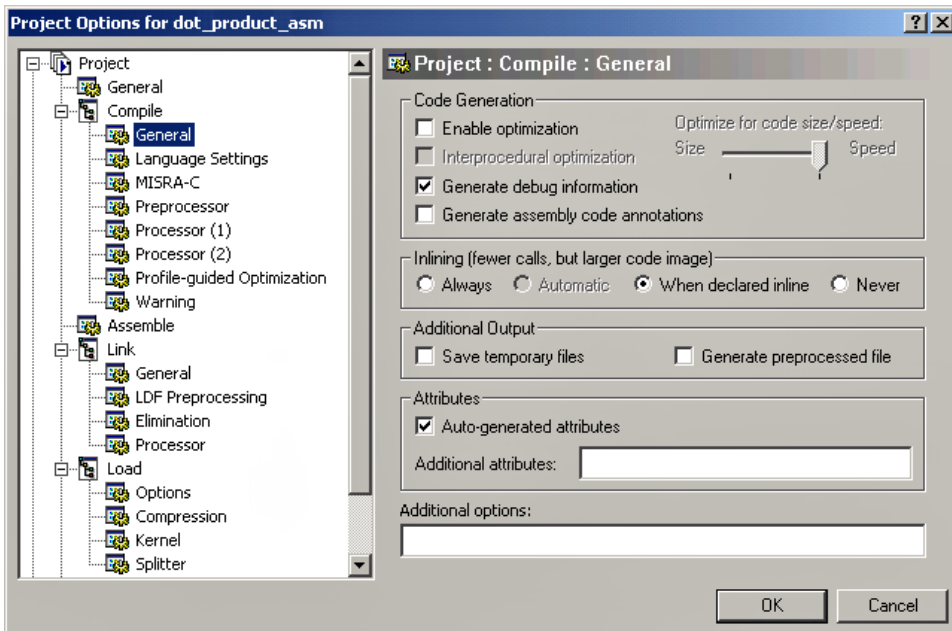

Figure 2-13. Project Options Dialog Box – Compile-General Page
14. Click the **Compile** page to display the **General** sub-page, shown in Figure 2-13.